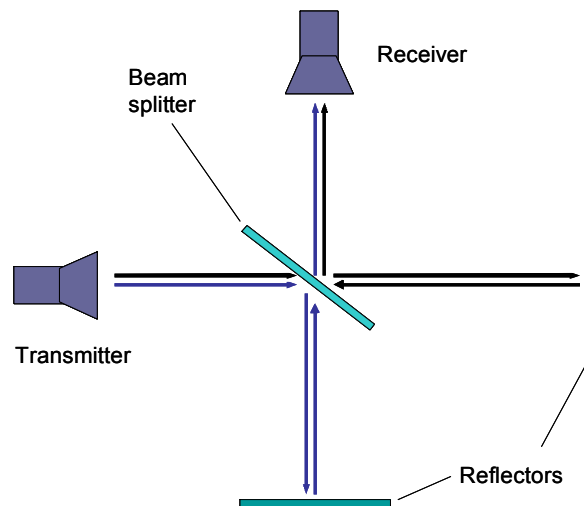

Figure 1.1: Schematic diagram of a Michelson interferometer.
In a Michelson interferometer, a beam splitter sends an incoming electromagnetic (EM) wave along two separate paths, and then brings the constituent waves back together after reflection so that they superpose, forming an interference pattern. Figure 1.1 illustrates the setup for a Michelson interferometer. An incident wave travels from the transmitter to the receiver along two different paths. These two waves superpose and interfere at the receiver. The strength of signal at the receiver depends on the phase difference between the two waves, which can be varied by changing the optical path difference.